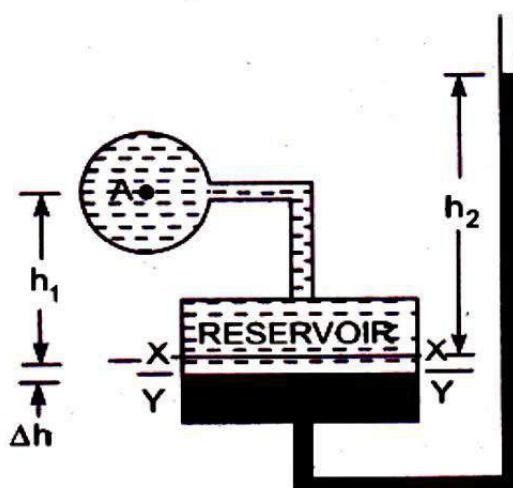

Fig. 2.7 Vertical single column manometer
- A single column manometer is a modified form of U-tube manometer in which reservoir having large cross sectional area (100 times) as compared to cross sectional area of U-tube connected to it as shown in Fig. 2.7.
- Fig. 2.7 shows the vertical single column manometer. Let $X-X$ be the datum line in the reservoir and in the right limb of the manometer, when it is not connected to the pipe. When the manometer is connected to the pipe, due to high pressure at A, the heavy liquid in the reservoir will be pushed downwards and will rise in the right limb.